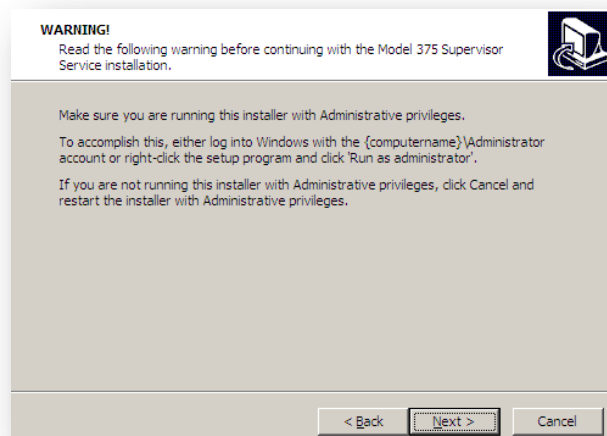

Figure 53 – Model 375 Web Page and Supervisor Service Installation (Warning)
5. Click on “Internet Information Services”, then click on the “Details” button. See Figure 53.